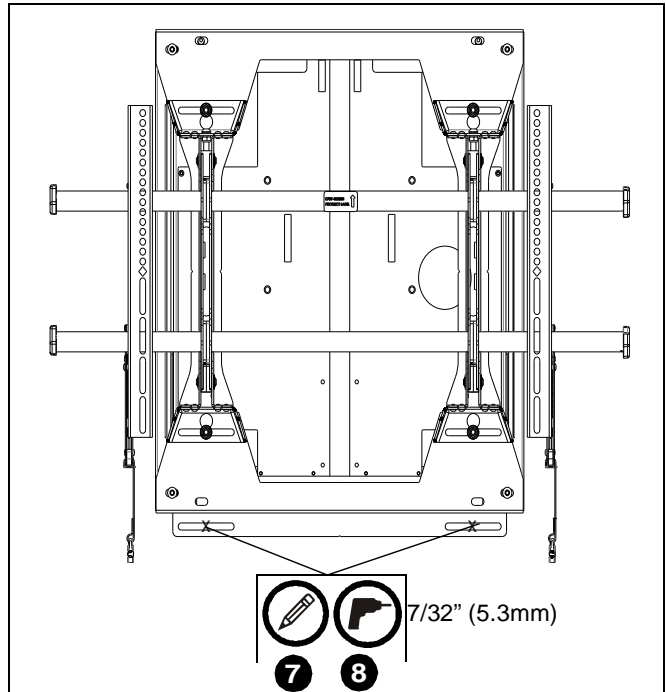

Figure 3
7. Mark hole locations for lower two mounting holes. (See Figure 3)
8. Drill two 7/32" holes at marked hole locations. (See Figure 3)